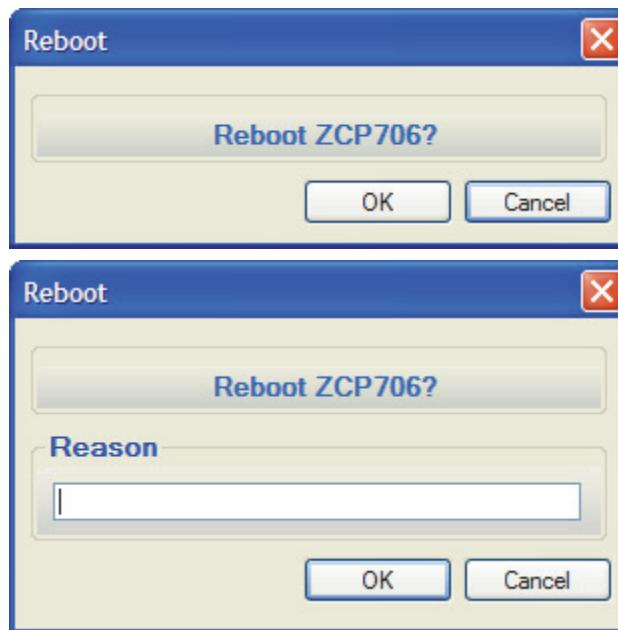

Figure 2-23. Confirmation Dialog Boxes
- When **Confirmation Required** is checked, System Manager displays a confirmation dialog box when one of the commands is initiated (Figure 2-23, top).
- If **Reason Required** is checked, the confirmation dialog box is expanded to include a field for noting why the command was initiated (Figure 2-23, bottom).